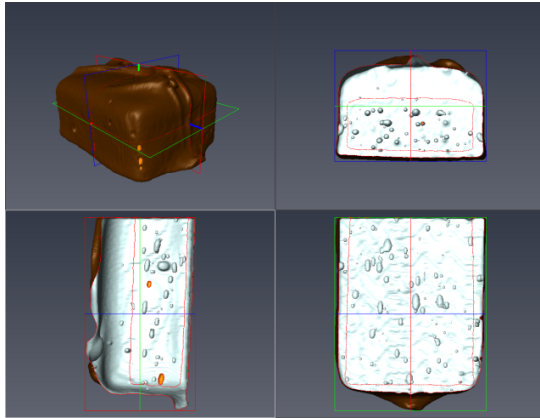

Figure 3.27: Extracted surface displayed with Ortho Views
- Ortho Views can also be attached to surfaces data, see Figure 3.27.